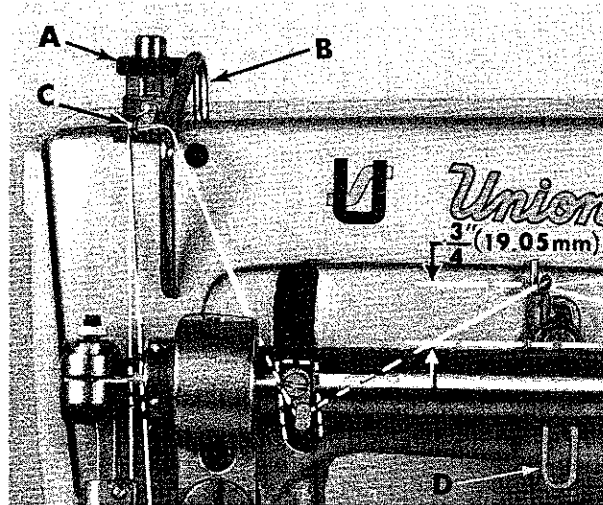

Fig. 13
Regulate the presser spring regulating screw (A, Fig. 13) so that it exerts only enough pressure on the presser foot to feed the work uniformly when a slight tension is placed on the fabric. This is the knurled screw, located directly behind the needle bar in the head of the machine. Turning it clockwise increases the pressure, counterclockwise acts the reverse.
Set the needle thread take-up wire (B, Fig. 13) located adjacent to the needle bar thread eyelet (C) so that its upper surface is even with the top of the hole in the needle bar thread eyelet when the needle bar has completed its downward stroke. Lower this setting for a smaller needle thread loop, or raise it for a larger loop. Set the needle thread frame eyelet (D) as high as possible without pulling thread through the tensions on the down stroke of the needle bar, yet so all thread is pulled through the tension post eyelet when the needle bar has completed its upward stroke. A good starting point is to have the needle thread frame eyelet hole  $\frac{3}{4}$  inch (19.05 mm) above the center of the attaching screw.